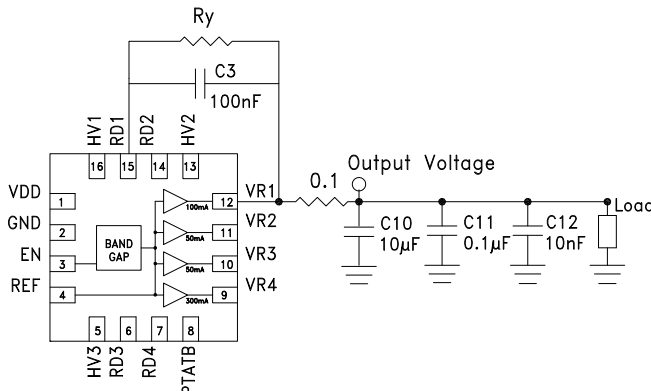

Figure 13. Recommended HMC1060LP3E configuration for supplying output voltage values less than default. [1]
The outputs of the HMC1060LP3E are configured to supply voltages less than the default values, down to 1.8 V minimum, by connecting a resistance ( $R_y$  in Figure 13) between pins VR $x$  and RD $x$  (where  $x = 1,2,3,4$ ). Figure 13 shows an example of configuring VR1 output. Other outputs are configured in exactly the same way (ie.  $R_y$  is added between VR2 & RD2, VR3 & RD3 and between VR4 & RD4).
- To set VR1 = VR2 = VR3 = 1.8 V in with PTAT Mode disabled, external resistance Ry = 21 kΩ shown in Figure 13 is required.